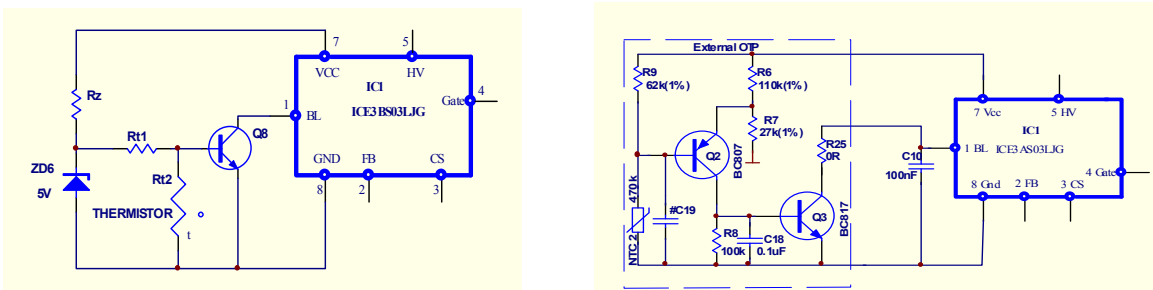

Figure 25 OTP circuit
2. MOSFET over temperature : Figure 25 is an over temperature latch circuit. The thermistor R_{t2} is glued to the hot component such as MOSFET to protect the device to be over heated.